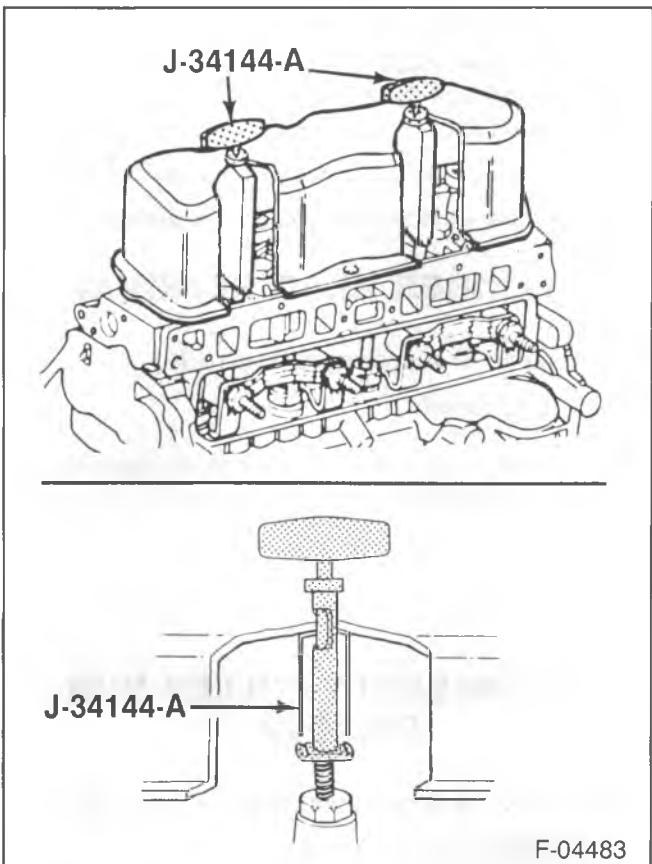

Figure 9—Removing the Rocker Arm Cover
2. Rocker arm cover. Use J 34144-A (figure 9).
3. Bolts (31), balls (32), rocker arms (33), pushrods (47) and pushrod guides (45).